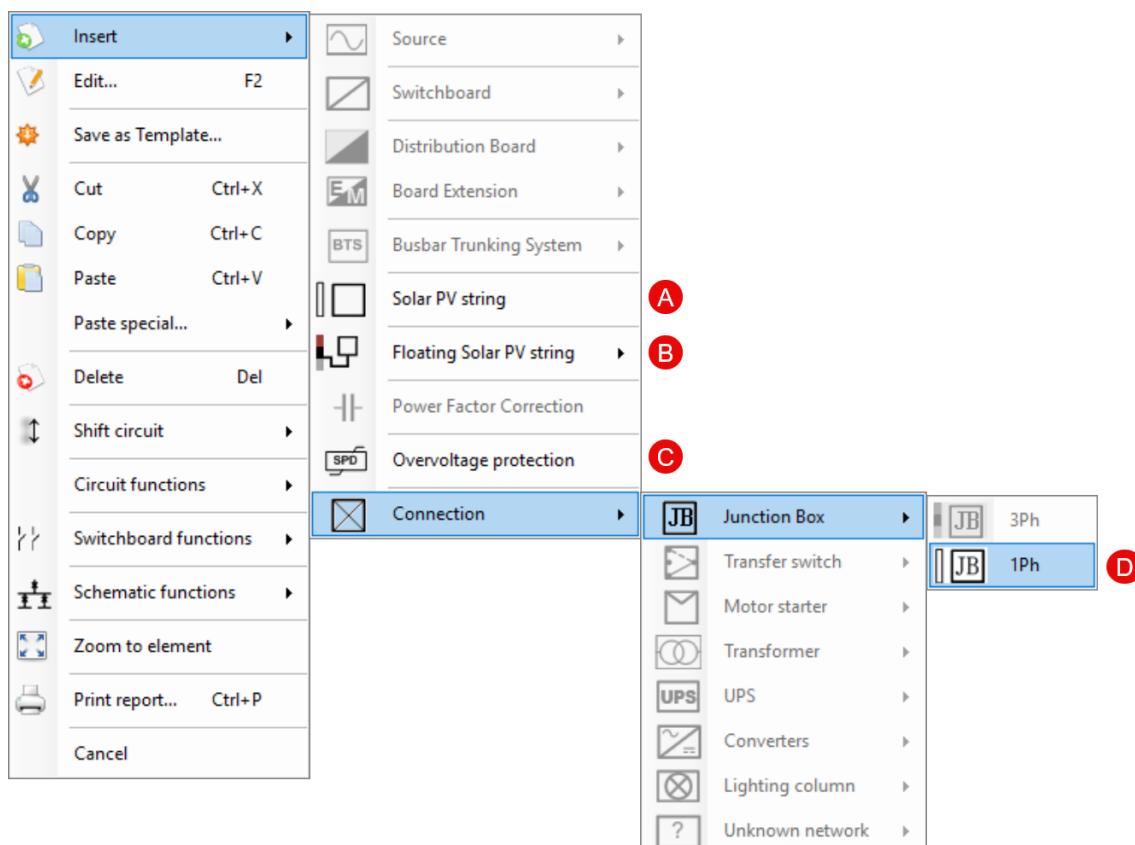

Figure 11: Actions Menu – Available Components for the DC Side of a Solar PV Inverter
Only specific components can be inserted on the DC side of a Solar PV Inverter. As shown, options such as **(A)** Solar PV string, **(B)** Floating Solar PV string, **(C)** Overvoltage protection, and **(D)** Junction Box (1Ph) are available, while all other options are disabled (greyed out) for compliance and design consistency (Figure 11).
As shown in Figures 11 (A) and (B), users can add a Solar PV String either directly to a Solar PV Inverter or via a Junction Box component, which serves as a connection point for MPPT inputs or a DC Combiner Box. ElectricalOM features a dedicated input section in the Circuit Edit Module, allowing users to define the electrical characteristics of each string. This enables accurate sizing, performance evaluation, and compliance checks.